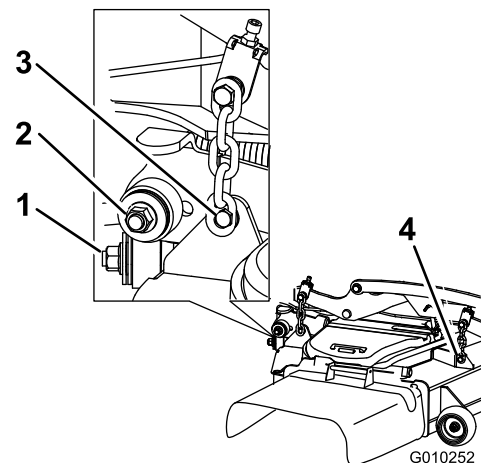
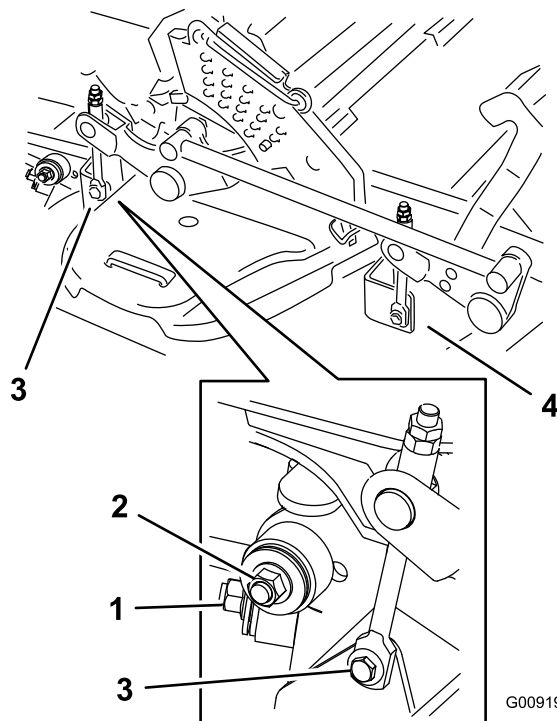

Figure 105
Figure 106
7. Remove and retain the hardware on both sides of the deck as shown in Figure 105 or Figure 106.